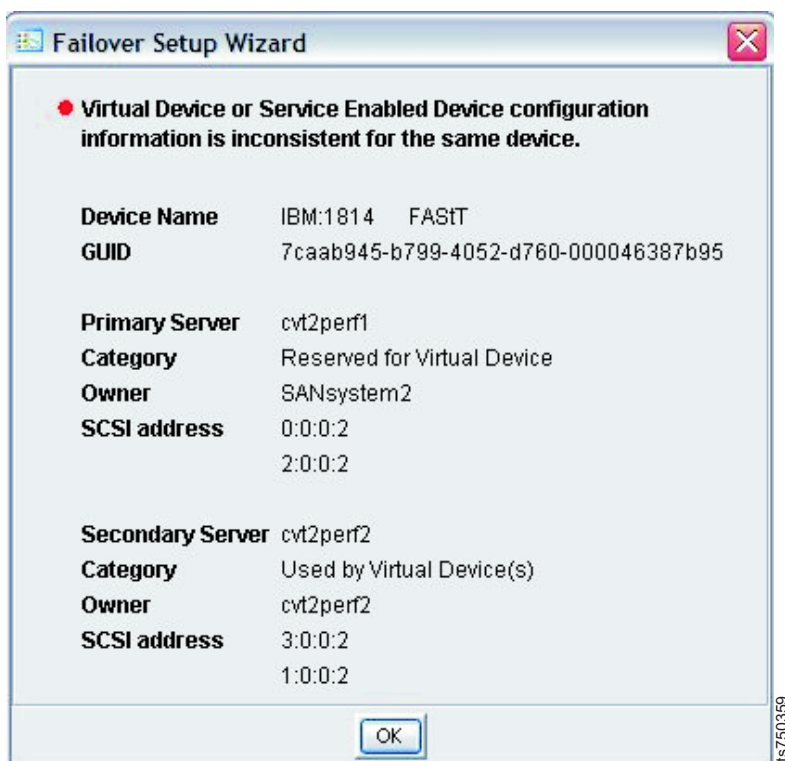

Figure 21. Summary of inconsistent device information
7. \_\_\_ In the **Virtual Device or Service Enabled Device...** window (Figure 21), click **OK**.